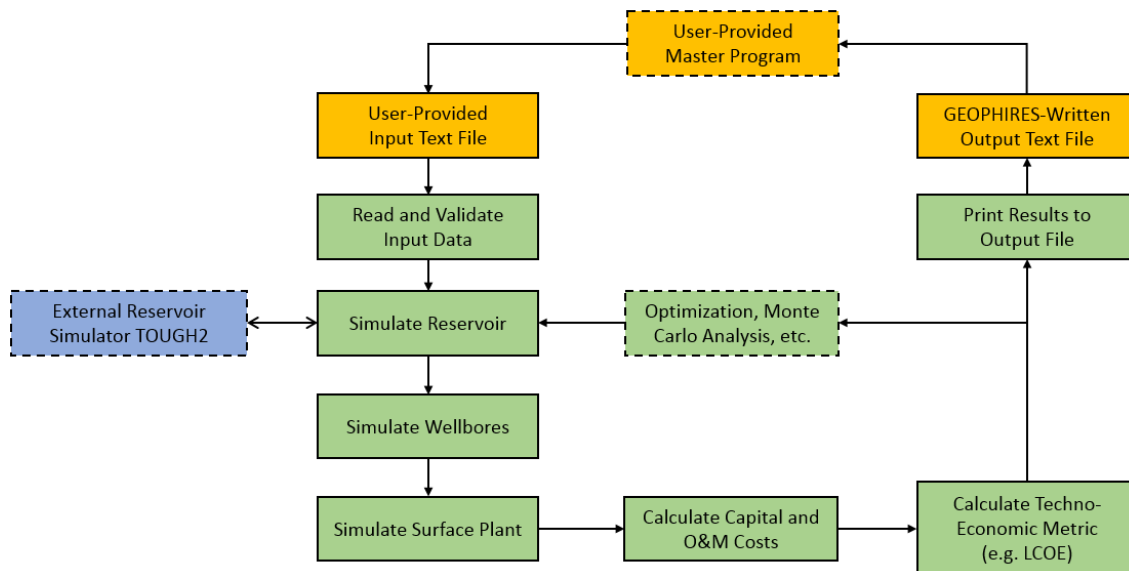

Figure 1. GEOPHIRES v2.0 Software Architecture
- The software architecture is illustrated in Figure 1. Green, orange and blue rectangles refer to internal GEOPHIRES components, external user-interface components, and the external reservoir simulator TOUGH2, respectively. Rectangles with solid outline are always executed during a simulation run; rectangles with dashed outline refer to optional or user-provided components.